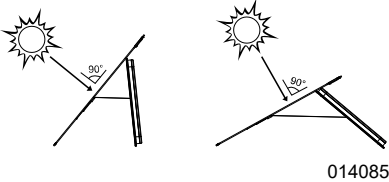

Figure 1-1. Angle Solar Surface
2. See Figure 1-1. Adjust the kick stand to position the solar panel surface at a 90° angle to the sunlight for optimal solar radiation.